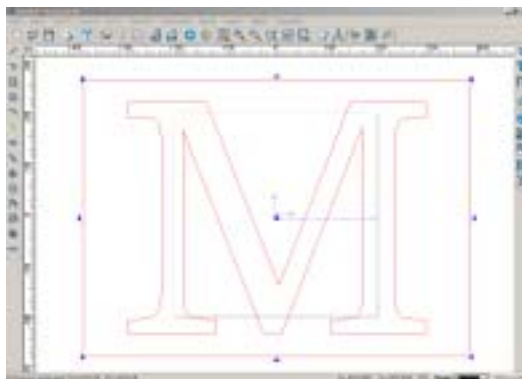

Fig. 12-14
7. Press Ctrl + A or click Shift key to select the two objects one by one, then click on the shortcut icon  on Aligning Bar or click Align->Align center command in the menu bar . The result is shown in Fig. 12-14.